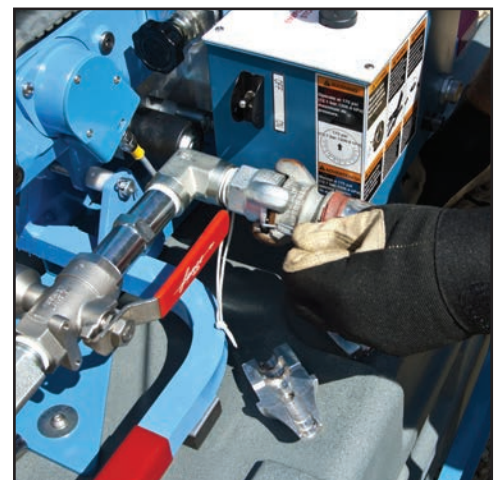

Figure 31. Installing Air Hose with Safety Clips
b. Attach the hose supplied with the air compressor to the air compressor coupling. The blower air valve assembly is equipped with a claw type connector. Use safety clips on all pneumatic hose connections (Figure 31).